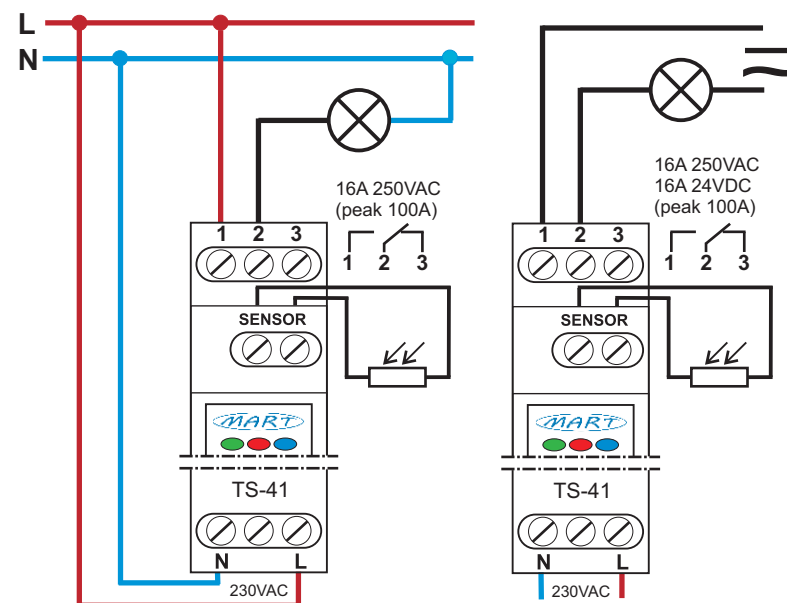

Fig. 2.: Connection diagrams for the TS-41-3.4 TWILIGHT SWITCH automatic device.
3. Connect the wires in accordance with the diagram (fig. 2)